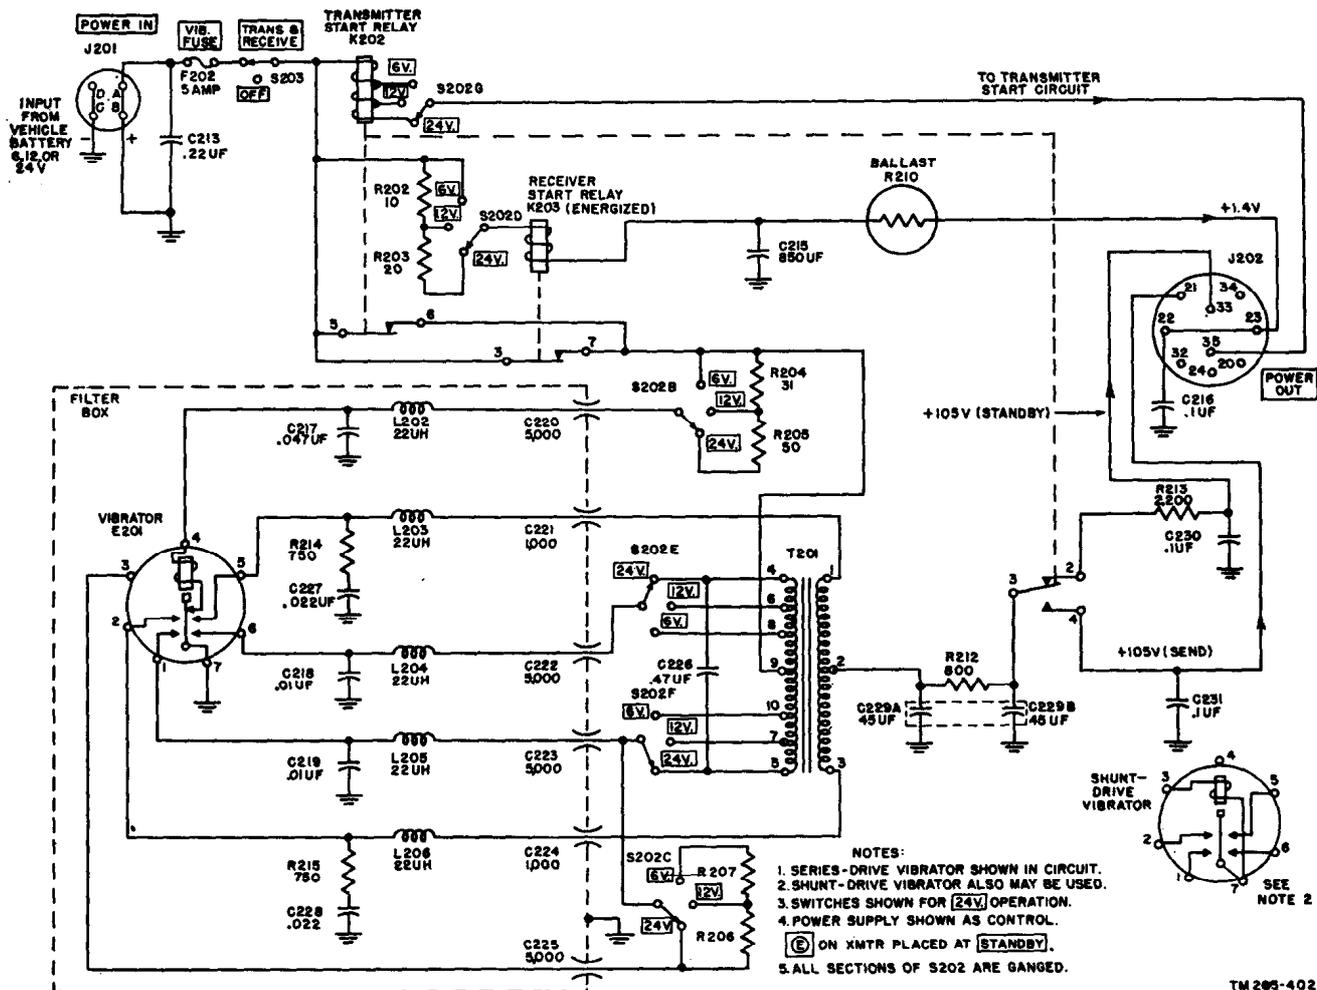

Figure 103. Dynamotor-Power Supply DY-88/GRC-9X vibrator and voltage selector switch S202, simplified schematic diagram.
148. Fuses and Switches of Dynamotor-Power Supply DY-88/GRC-9 (fig. 103)
149. Receiver Filament Supply of Dynamotor-Power Supply DY-88/GRC-9 (fig. 103)
150. Receiver Plate and Screen Supply of Dynamotor-Power Supply DY-88/GRC-9 (fig. 103)
a. *Transmitter Start Relay.* When control Ⓢ is turned to the SEND position, transmitter start relay K202 is energized and contacts 11 and 12 close to apply power to dynamotor start relay K201. Voltage selector switch S202G (fig. 103) permits the relay to operate from a 6-, 12-, or 24-volt battery.
(figs. 103 and 104)